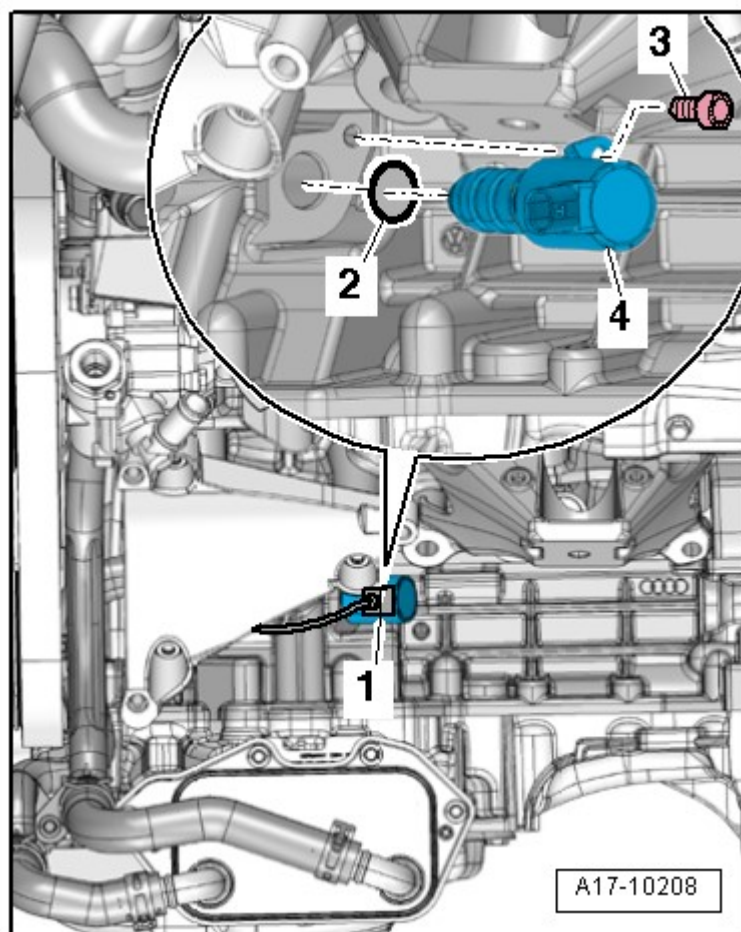
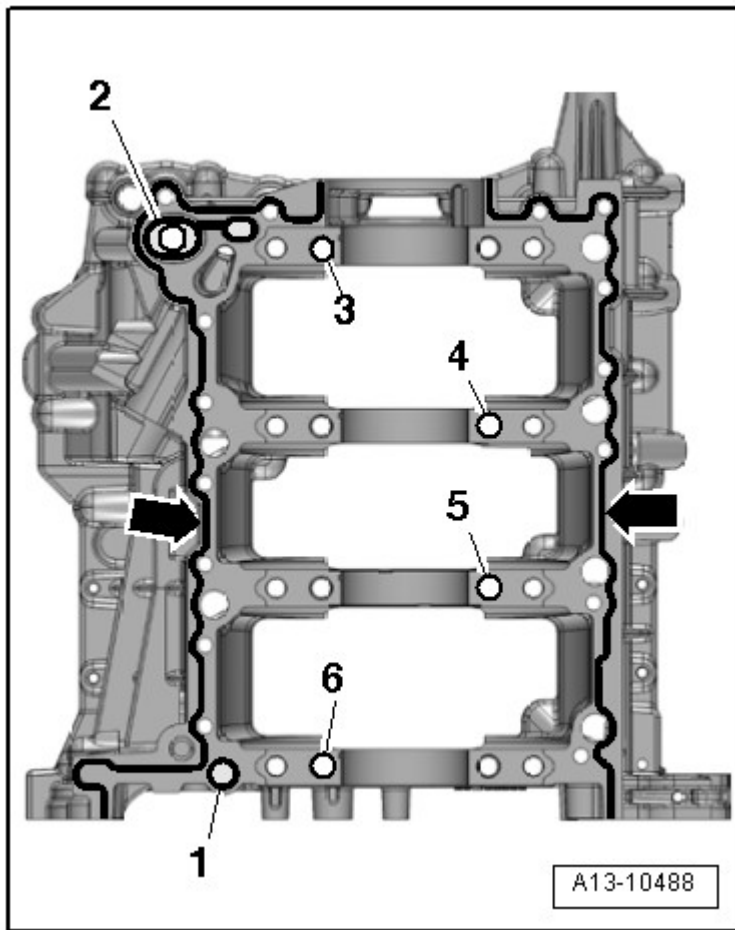

Fig. 3: Identifying Oil Pressure Regulation Valve -N428-
Fig. 4: Identifying Sealant Application For Guide Frame And Position Of Alignment Bushings
- Insert into guide frame, refer to **Fig. 4**
- With oil pressure regulation valve -N428-, refer to **Fig. 3**
- To remove, remove timing chain guide rail, refer to item 8: **TIMING MECHANISM DRIVE CHAIN OVERVIEW**
- Sealant application, refer to **Fig. 4**